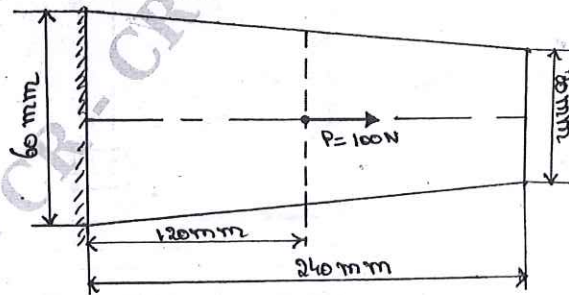

Fig.Q4
- 4 Consider the thin plate shown in Fig.Q4. The plate has a uniform thickness $t = 1$ mm, Young's modulus $E = 200$ GPa and weight density $\rho = 76.6 \times 10^{-6}$ N/mm³. In addition to its weight, the plate is subjected to a point load $P = 100$ N at its mid point.